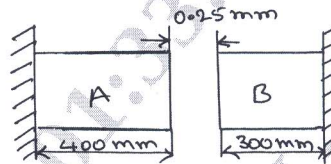

Fig.Q2(a)
- 2 a. At room temperature the gap between bar A and bar B shown in Fig.Q2(a) is 0.25mm. What are the stresses induced in the bars if the temperature rise is 35°C . Given that